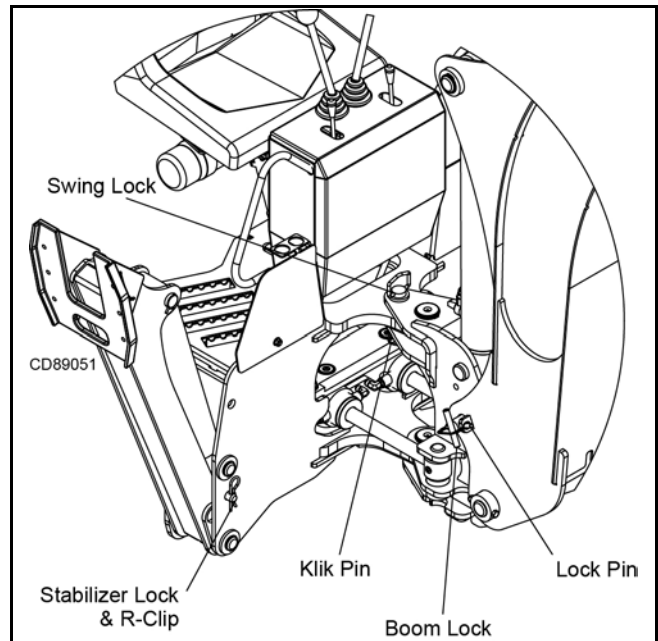

Figure 14. Lock Pins Installed for Transportation
2. Center boom from side to side and install swing lock pin through swing frame and main frame. Secure with klik pin. See Figure 14.
4. Always raise and lock stabilizers before transporting backhoe. See Figure 14.